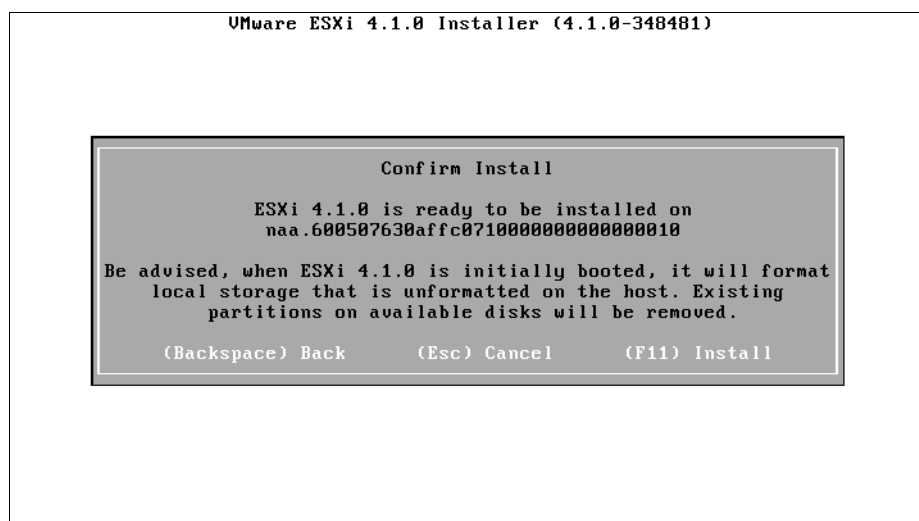

Figure 3-88 Confirm the disks to install ESXi
11. Confirm the Install options by pressing the F11 key, as shown in Figure 3-88.